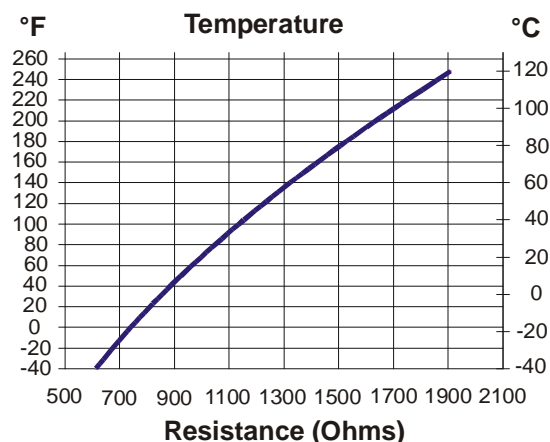

Figure 8: Temperature vs. Resistance Chart
- d. Refer to Figure 8 to determine the optimal resistance for the measured temperature.
- f. If the sensor's resistance conforms to the chart in Figure 8, reconnect the sensor to the control.